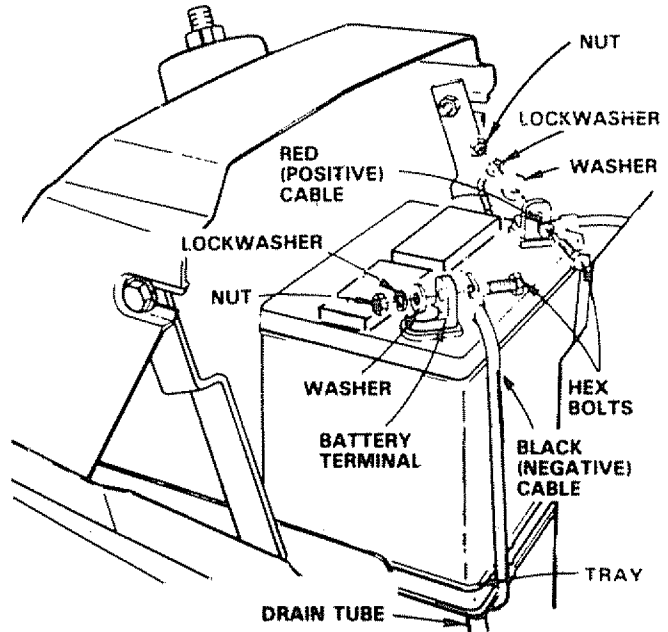

FIGURE 5
b. Make sure drain tube (Fig. 5) is fastened to drain hole in battery tray and battery tray is positioned in hole of battery support.
c. Place battery in plastic tray (battery terminals to front of tractor) (Fig. 5).
- d. Connect RED battery cable to positive (+) battery terminal with hex bolt, flat washer, lockwasher and hex nut (shown full size below) found in bag of parts (Fig. 5). Tighten securely.
- e. Connect BLACK ground cable to negative (-) battery terminal with remaining hex bolt, flat washer, lockwasher and hex nut (shown full size below) found in bag of parts (Fig. 5). Tighten securely.